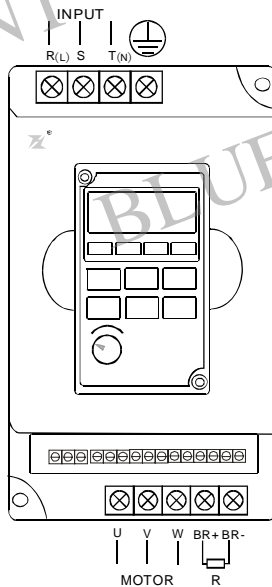

Fig.3-4 Terminal Diagram
1) Layout of Control Terminals(Fig.3-4, Fig3-5):